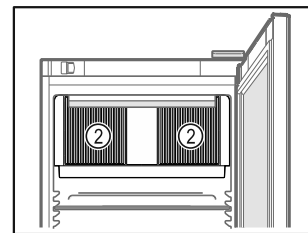

Fig. 78
- ❑ Ventilation slots Fig. 78 (2) for recirculation fan in the interior must be kept clear.